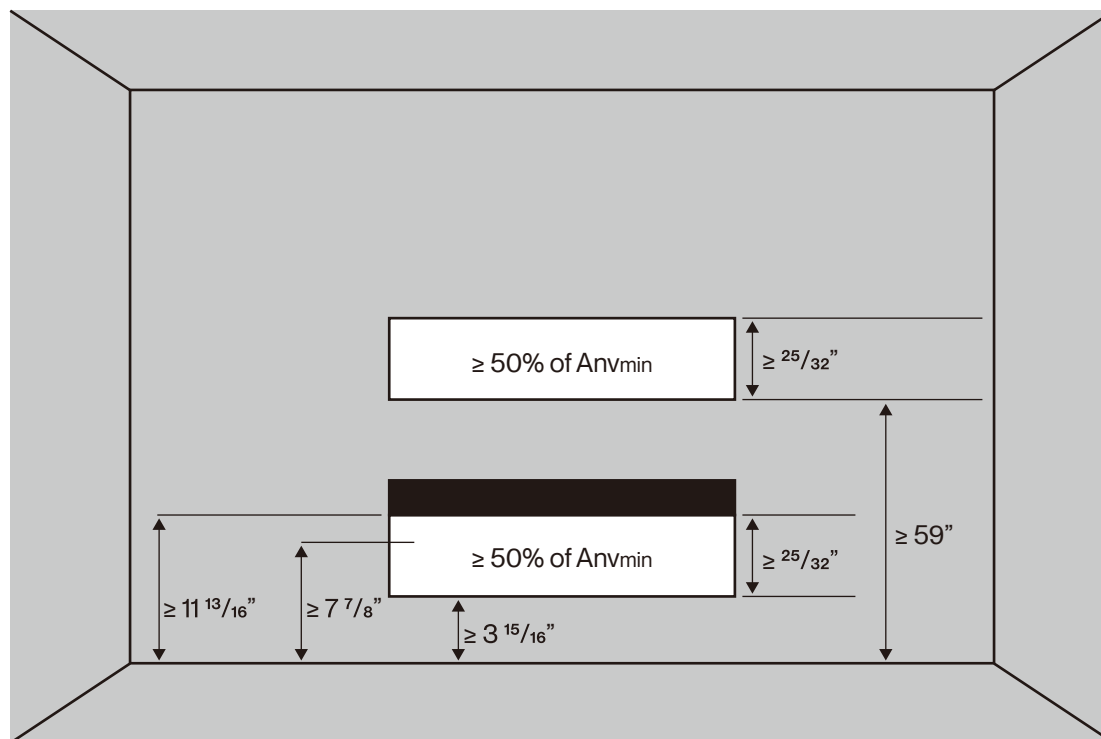

Fig 1-1 Opening Requirement for Connected Rooms
- The space considered shall be any space which contains refrigerant-containing parts or into which refrigerant could be released. The floor area (A) of the smallest, enclosed occupied space shall be used in the determination of refrigerant.
- For determination of floor area (A) when used to calculate the refrigerant charge limit, the following shall apply:
- The floor area (A) shall be defined as the room area enclosed by the projection to the base of the walls, partitions and doors of the space in which the appliance is installed.
- The area of the connected rooms, on the same floor, connected by permanent opening in the walls and / or doors between occupied space, including gaps between the wall and the floor can be considered a single room when determining compliance to A_{min} , provided all of the following conditions are met as [Fig 1-1].